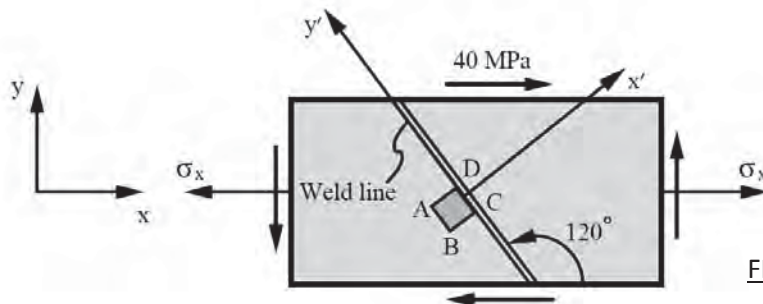

FIG. 2
2. A plate with a weld line at  $120^\circ$  is subjected to a shear stress of 40 MPa and a tensile normal stress  $\sigma_x$ , as shown in Fig.2. The plate material property values are  $E = 200$  GPa,  $\nu = 0.25$  and  $G = 80$  GPa.